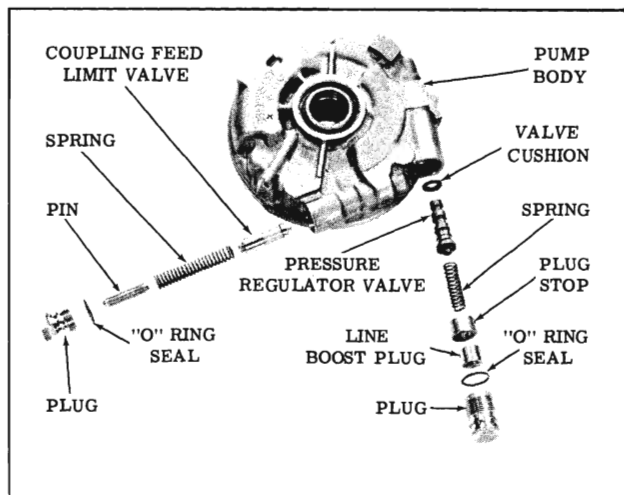

Fig. 3-280 Pump Valves
6. Remove the coupling feed limit valve plug and "O" ring. Inspect and remove the "O" ring if necessary. (Fig. 3-280)
7. Remove the coupling feed limit valve spring, valve and pin. (Fig. 3-280)
9. Remove the pressure regulator spring, valve and line boost plug stop. (Fig. 3-280)
1. Install a new pressure regulator valve cushion if replacement is necessary. (Fig. 3-280)
2. Install the pressure regulator valve, spring, plug stop, boost plug, "O" ring and plug. Torque plug 15-20 ft. lbs. (Fig. 3-280)
3. Install the coupling feed limit valve spring, pin, "O" ring and plug. Torque 15-20 ft. lbs. (Fig. 3-280)